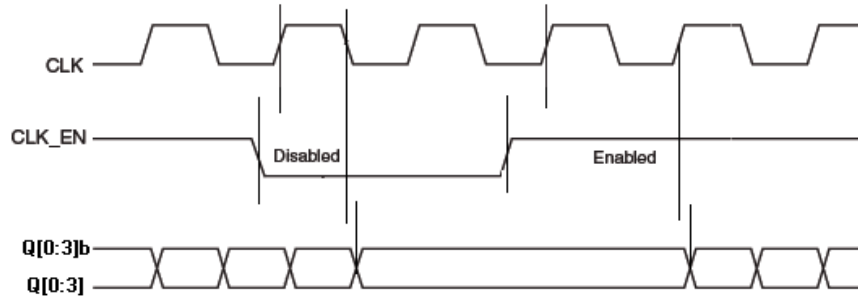

Figure 3. CLK_EN TIMING DIAGRAM
| 2 | CLK_EN | NC | Pullup | Synchronized Clock Enable when HIGH. When LOW, outputs are disabled (Qx HIGH, Q \bar{x} LOW). See Figure 3. |
1. After CLK_EN switches, the clock outputs are disabled or enabled following a rising and falling input clock edge as show in Figure 3.